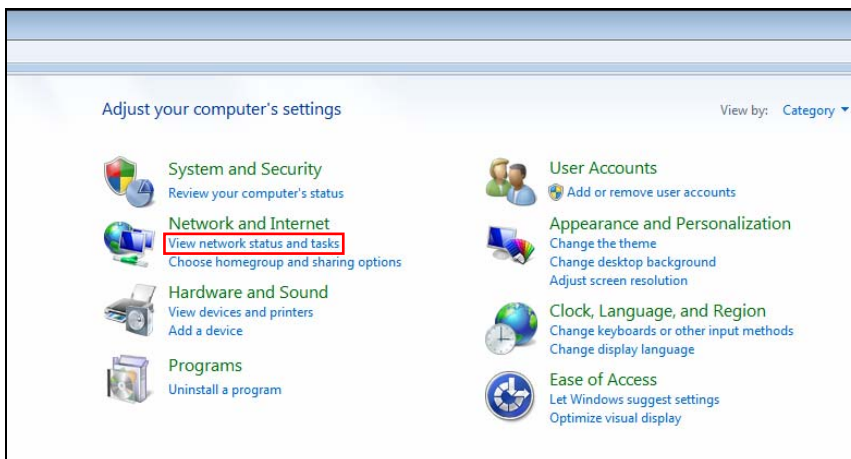

Figure 3-36
1. Follow Steps 1 and 2 in *3.8 Configuring the IP Address* to access the Control Panel window. See Figure 3-36.